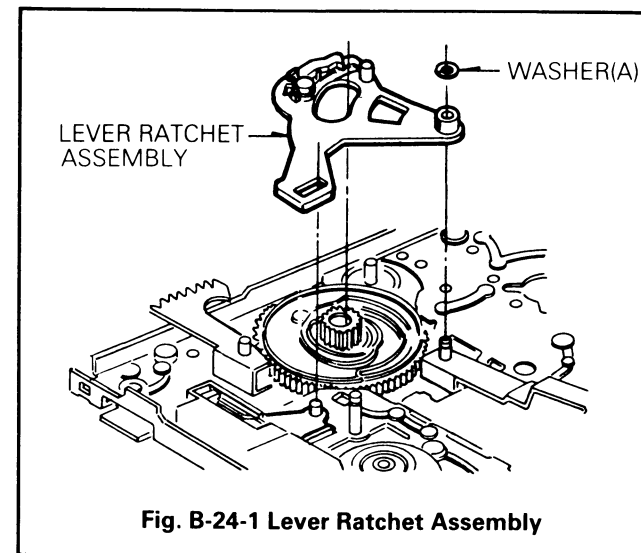

Fig. B-24-1 Lever Ratchet Assembly
- 1) Remove the washer(A) and remove the Ratchet Lever Assembly. (Fig. B-24-1).